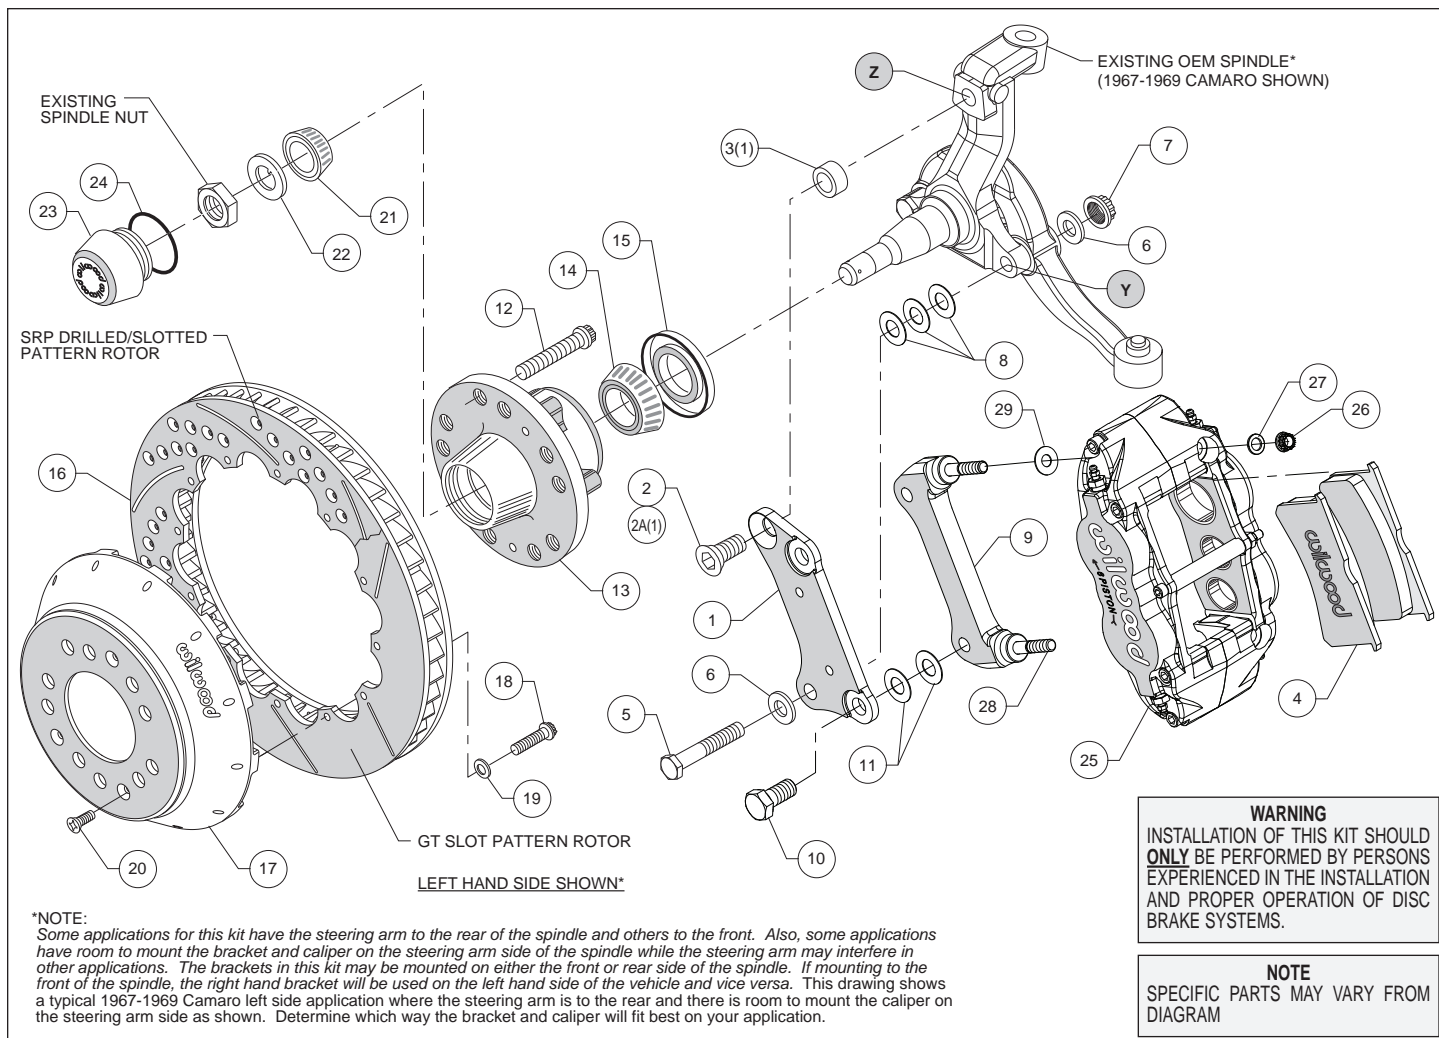
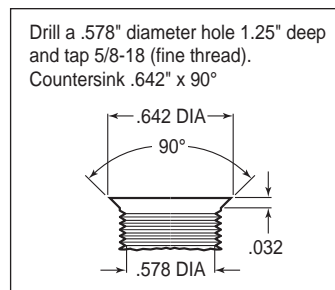
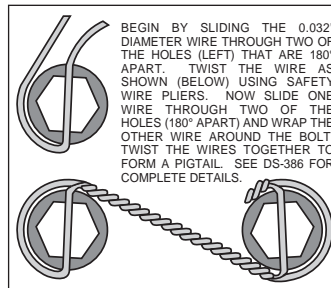

Figure 1. Typical Installation Configuration
Figure 3. Drill and Tap Detail
Figure 4. Safety Wire Diagram
Assembly Instructions (numbers in parenthesis refer to the parts list on the preceding page, and Figure 1):
•**NOTE:** Some applications for this kit have the steering arm to the rear of the spindle and others to the front. Also, some applications have room to mount the bracket and caliper on the steering arm side of the spindle while the steering arm may interfere in other applications. The brackets in this kit may be mounted on either the front or rear side of the spindle. If mounting to the front of the spindle, the right hand bracket will be used on the left hand side of the vehicle and vice versa. Figure 1 shows a typical 1967-1969 Camaro left side application where the steering arm is to the rear and there is room to mount the caliper on the steering arm side as shown. Determine which way the bracket and caliper will fit best on your application.
•**NOTE:** Some spindles in this year range may require the following modifications (reference Figure 1 and Figure 3): Top anchor pin hole (Z) must be drilled and tapped to the dimensions as outlined in Figure 3. The lower bolt hole (Y) in the spindle used to mount the new caliper bracket, and the mating steering arm hole, must be enlarged to .50" by drilling. It is recommended these modifications be performed by a qualified machinist.
•Install wheel studs (12) into the hub (13), Photo 1. Torque to 77 ft-lb. **NOTE:** There are two five lug patterns in the hub (5 x 4.50 and 5 x 4.75). Make sure of the correct hole pattern for the correct wheel application before installing studs into hub.
•Pack the large inner bearing cone (14) with high temperature disc brake bearing grease (available from your local auto parts store) and install into the backside of the hub (13).
•Install the grease seal (15) by pressing into the backside of the hub (13), Photo 2.
•Orient the rotor (16) and the hat (17) as shown in Figure 1 and Photo 3. Attach rotor to hat using bolts (18) and washers (19). Using an alternating sequence, apply red *Loctite*® 271 to the threads, and torque to 155 in-lbs. For an added measure of security, the bolts may be safety wired using standard 0.032 inch diameter stainless steel safety wire as shown in Figure 4. Please refer to Wilwood's data sheet DS-386 (available at www.wilwood.com/Pdf/DataSheets/ds386.pdf) for complete safety wire installation instructions.
•**Disc Brake Spindle Application Only:** Follow the instructions below, but instead use bolt (2A), and spacer (3) in the upper bolt hole location, Figure 1.
•Orient the flat bracket (1) as shown in Figure 1 and Photo 4, and install using bottom bolt (5), washers (6), and nut (7), Figure 1. Initially place three .032" thick shims (8) between the bracket and spindle. Install the upper bolt (2 or 2A). Temporarily tighten bolts. **NOTE:** The bracket must fit squarely against the mounting surfaces on the spindle. Inspect for interference from casting irregularities, machining ridges, burrs, etc. Temporarily install the new hub, hat and rotor assembly. Check that the bracket is aligned parallel to the rotor, Photo 5. If not, adjust by adding or subtracting shims (8) on the lower bolt between the bracket and spindle, Figure 1. Once the bracket alignment is correct, remove the upper bolt (2 or 2A), apply red *Loctite*® 271 to the bolt threads, and torque to 120 ft-lb. Torque the lower lock nut to 65 ft-lb.
•The radial mount caliper bracket (9) should initially be installed with clean, dry threads on the mounting bolts. Orient the bracket as shown in Figure 1 and Photo 6, and install using bolts (10). Initially place two .029 thick shims (11) on each bolt between the two brackets, Figure 1. Temporarily tighten the mounting bolts. Later, after the caliper alignment has been checked, the mount bolts will be secured using red *Loctite*® 271.
•Pack the small outer bearing cone (21) with high temperature disc brake bearing grease and install into hub (13). Final install the hub assembly onto the spindle. Secure using spindle washer (22) and OEM spindle nut, Photo 7. Adjust bearings per OEM specifications. Install saved OEM nut lock (if any) and a new cotter pin (not included).
•Screw dust cap (23) into hub (13). Friction created by the o-ring (24) on the dust cap keeps it from unscrewing. **NOTE:** The O.D. of the existing OEM spindle washer may be larger than the I.D. of the dust cap not allowing it to seat against the hub face. Therefore, use the spindle washer (22) supplied with the kit instead of the OEM washer.
•Final install the rotor (16 and 17) assembly onto the hub (13), taking care to align the small countersunk holes in the hat with the small threaded holes in the hub. **NOTE:** The hat must fit flush against the hub face or excessive rotor run out may result. Install three flat head screws (20) through the small holes in the hat (17), Photo 8, and torque to 85 in-lb.
•**NOTE:** This kit contains distinct right and left hand calipers that must be mounted in a specific direction, as described below. Lubricate the caliper mounting studs (28) with lightweight oil. Initially place one .035" thick shim (29) on each stud between the caliper and the bracket, as shown in Figure 1 and Photo 9. Mount the caliper (25) onto the bracket (9) using lock nuts (26) and washers (27), Figure 1. Ensure that the caliper is mounted so the largest pistons are at the rotor exit end of the caliper, in relation to the direction of rotor rotation. Temporarily tighten the lock nuts. The rotor should be centered in the caliper, Photo 10. If not, adjust by adding or subtracting shims (11) between the flat bracket (1) and the caliper bracket (9). Always use the same amount of shims on